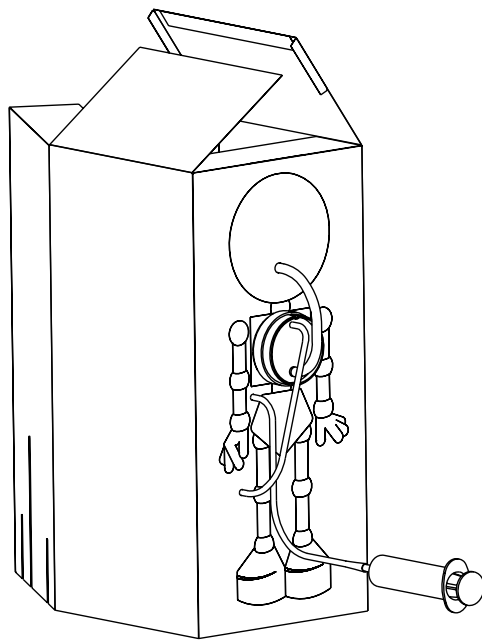

Figure 4
- Connect the flexible tubes, feeding them through the openings provided on the enclosure (see Figures 4 and 5).